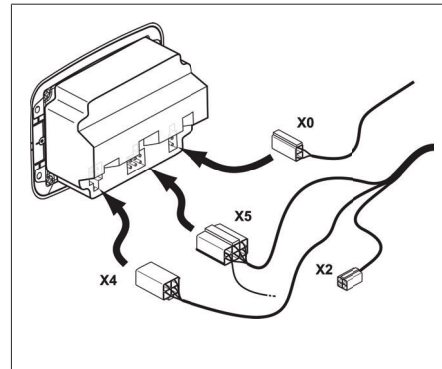

Fig. 53 Electrical connections of the programmable control panel
8. Connect the X4 plug (4 poles) and the X5 plug (6 poles) of the external wiring harness to the control panel (see Fig. 53).
10. Optional: Connect the X2 plug (4 poles) to receiver Telestart. (see Fig. 53).